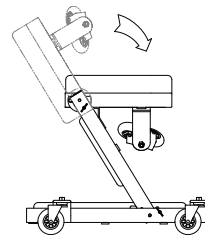

Figure 2 - High-seat configuration
2. Disengage lock pin for middle frame and rotate further forward. Engage locking pin. Disengage lock pin for head frame section and rotate backwards as shown in Fig. 2. Adjust hinged caster brackets as required. This is the high seat configuration.